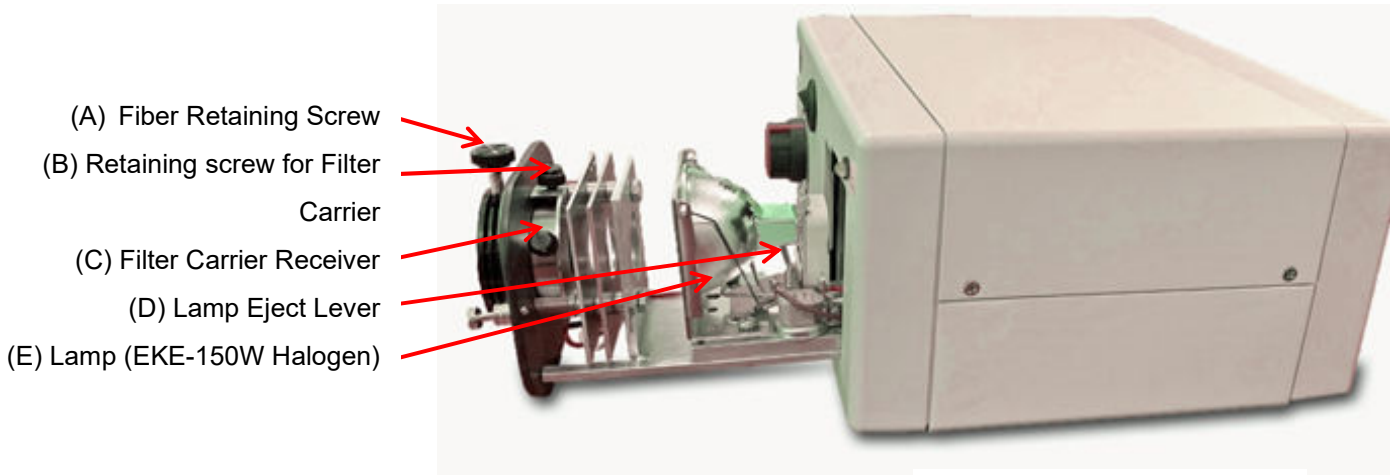

Figure 4 (Slide Out Lamp Assembly)
To reduce the risk of fire – Use 150 Watt or smaller, 21 Volt type Halogen lamp or equivalent. See *Figure 4 - Slide Out Lamp Assembly, item E* for lamp type.
3. Turn the slide-out lamp assembly retaining screws (6) *Figure 4 (Slide Out Lamp Assembly)* CCW until they disengage from the front panel. Gently pull the slide-out lamp assembly forward to gain access to the lamp and lamp holder.
4. Push the lamp release lever (D) *Figure 4 (Slide Out Lamp Assembly)* toward the lamp socket to raise the lamp and remove it from the ceramic lamp socket, pulling the lamp from the socket.
The filter (not supplied with the carrier) is installed in the carrier, coated side facing the lamp and carrier aperture. The carrier is then inserted into the filter receiver *See Figure 4 - Slide Out Lamp Assembly, item C*) in Maintenance Section.
- Typical implementations and their function follow as Figure 4,5,6 on Page 18, 19.